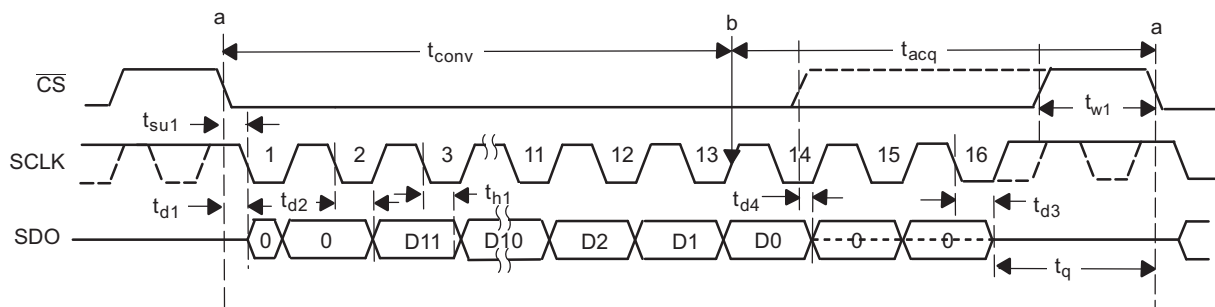

Figure 21. Interface Timing Diagram
(1) 3-V Specifications apply from 2.7 V to 3.6 V, and 5-V specifications apply from 4.5 V to 5.5 V.
(2) With 10-pf load.
**TIMING REQUIREMENTS (see Figure 21) (continued)**
The cycle begins with the falling edge of  $\overline{CS}$ . This point is indicated as **a** in Figure 21. With the falling edge of  $\overline{CS}$ , the input signal is sampled and the conversion process is initiated. The device outputs data while the conversion is in progress. The data word contains two leading zeros, followed by 12-bit data in MSB first format and padded by two lagging zeros.
The falling edge of  $\overline{CS}$  clocks out the first zero, and a second zero is clocked out on the first falling edge of the clock. Data is in MSB first format with the MSB being clocked out on the 2nd falling edge. Data is padded with two lagging zeros as shown in Figure 21. The conversion ends on the first rising edge of SCLK after the 13th falling edge. At this point the device enters the acquisition phase. This point is indicated by **b** in Figure 21.
Figure 21 shows the device data is read in a sixteen clock frame. However,  $\overline{CS}$  can be asserted (pulled high) any time after point **b**. SDO goes to 3-state with the  $\overline{CS}$  high level. The next conversion should not be started (by pulling  $\overline{CS}$  low) until the end of the quiet sampling time ( $t_q$ ) after SDO goes to 3-state or until the minimum acquisition time ( $t_{acq}$ ) has elapsed. To continue normal operation, it is necessary that  $\overline{CS}$  is not pulled high until point **b**. Without this, the device does not enter the acquisition phase and no valid data is available in the next cycle. (Also refer to the Power-Down Mode section for more details.)  $\overline{CS}$  going high any time during the conversion aborts the ongoing conversion and SDO goes to 3-state.